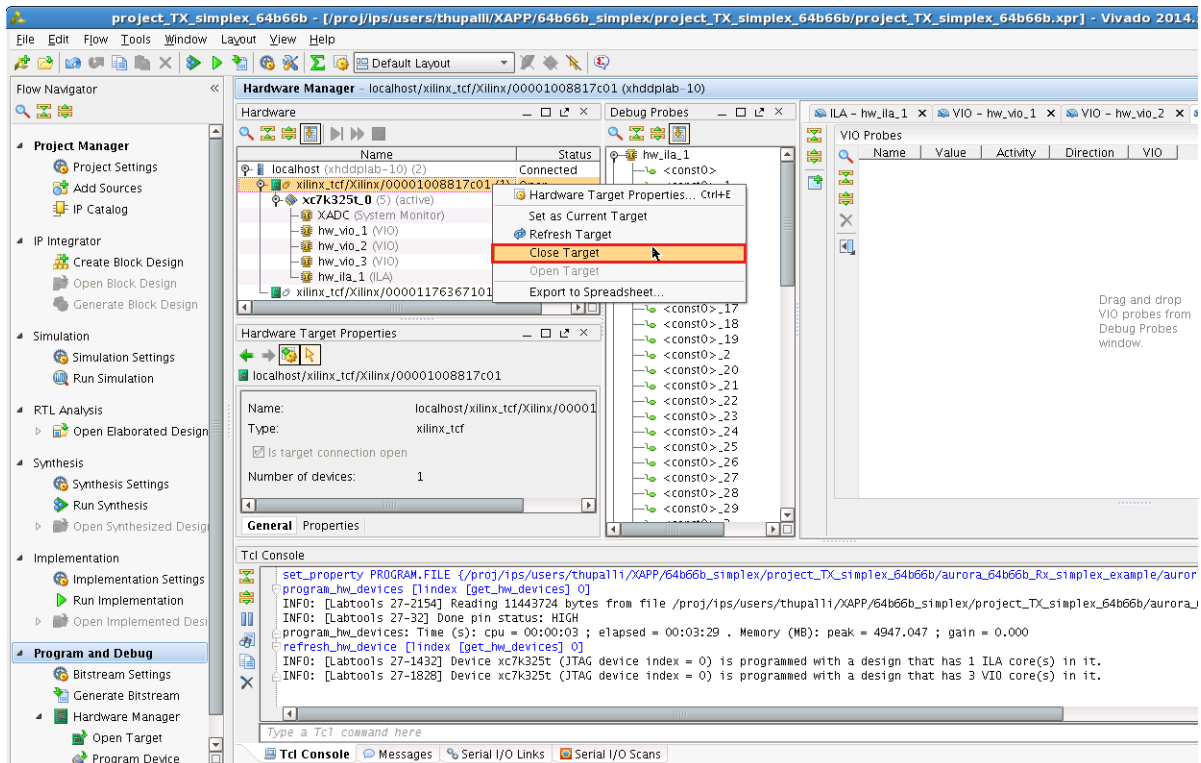

Figure 21: Close Target
- When programming completes, right-click the programmed target device in the Hardware list and select **Close Target** (Figure 21).